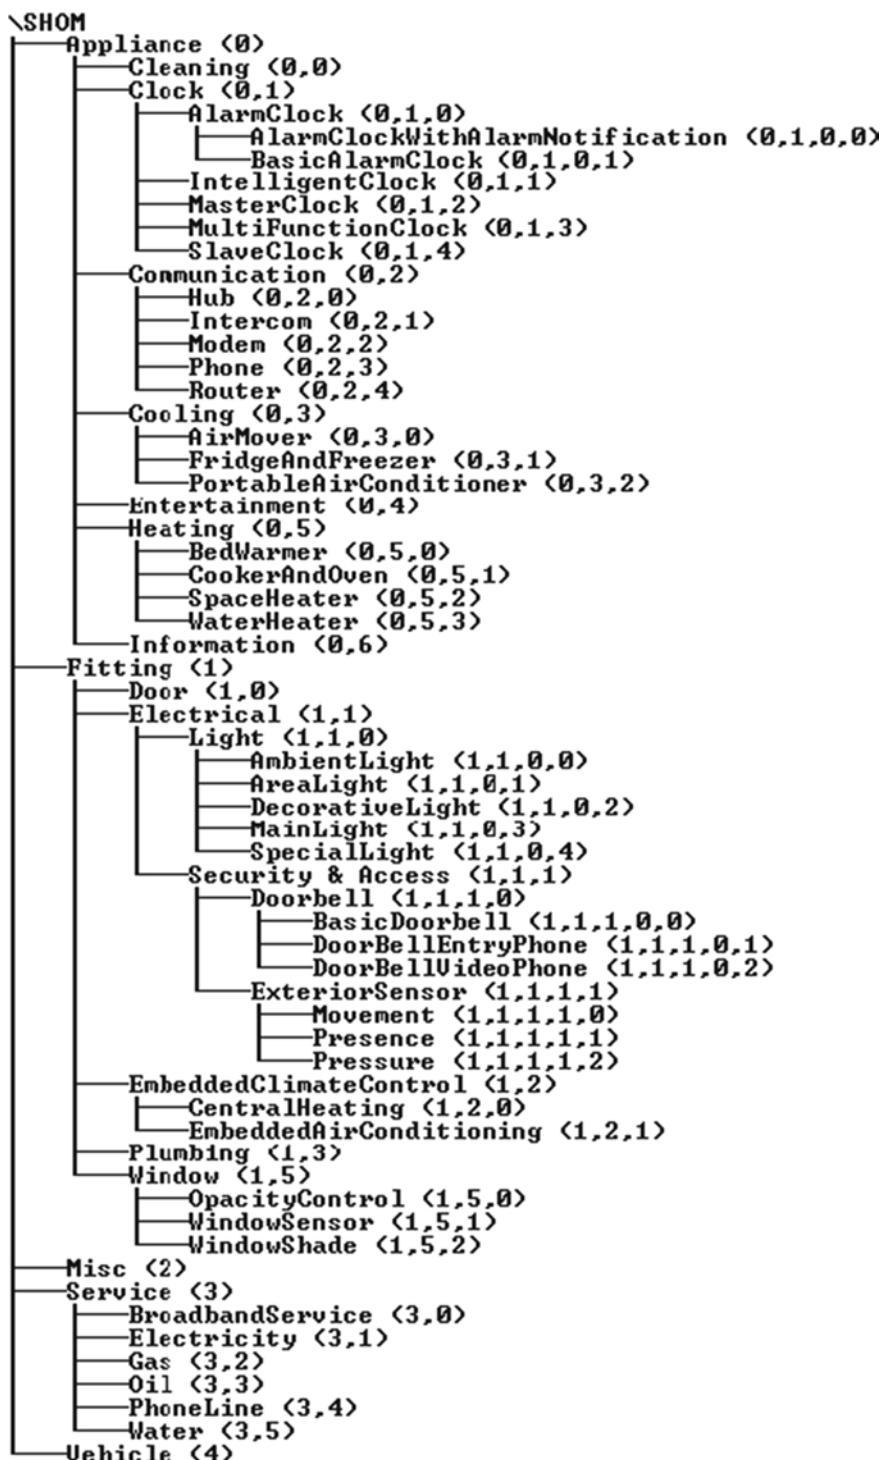

Figure 6-9. SHOM hierarchy—addressed version
To build our model, what we need to do is assign a sequential index number (starting from zero) to each item at each level in the hierarchy. This is rather like assigning an address to every house in a street that's just been newly built. That's what we do in Figure 6-9.
- To allow for updates, the object model itself would need to have an embedded version number. This could either be done by replacing the \SHOM at the top of the map (see Figure 6-9) with a name that includes the version number (e.g., \SHOM_V2.1.7) or simply by prefixing the \SHOM root with a version number, and bumping that number whenever necessary. For example, referring to Figure 6-9, instead of communication hubs being 0,2,0 they would (in, say, SHOM version five) be 5,0,2,0.